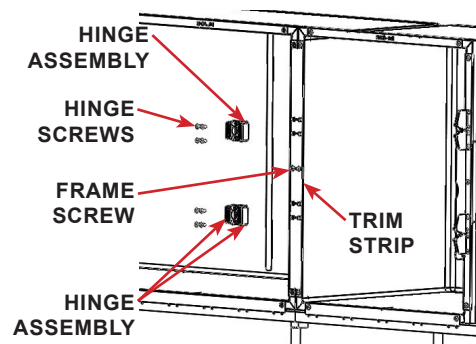

FIGURE 2.25 - Hinge Installation
**STEP 15:** Reinstall the hinges on both cages, but do NOT fully tighten screws. See FIGURE 2.25